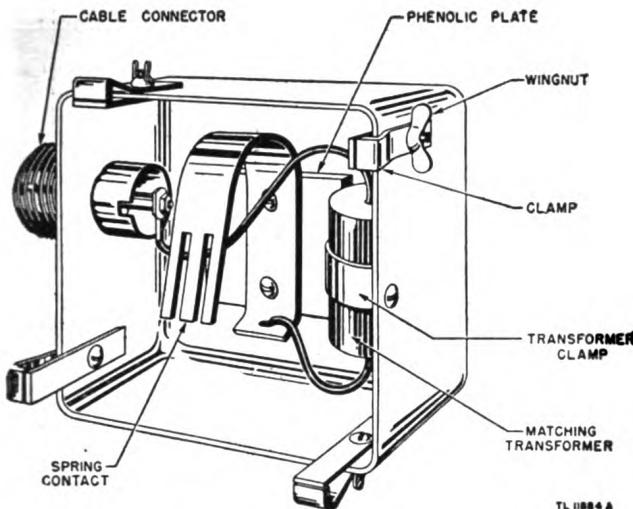

Figure 14. Terminal Box TM-210.
a. TERMINAL BOX TM-210. Terminal Box TM-210 is  $2\frac{1}{2}$  inches square and  $1\frac{1}{2}$  inches deep (fig. 14). It contains a spring contact mounted on a phenolic plate, a matching transformer, and a clamp which holds the transformer in place. On one side of the box is a cable connector into which the connector on the end of the coaxial cable fits. The ground strip attached to the inside of the box is slotted at one end and has a hole at the other. It is  $\frac{3}{8}$  inch wide by  $1\frac{5}{8}$  inches long (used with Terminal Box TM-211 and Cordage CO-282).